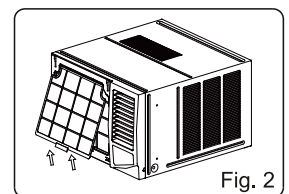

Fig. 2
3. Grip the tab on the end of the filter, lift it up, then pull it towards yourself, pull the filter out (see Fig. 2).
1. Insert the air filter into the frame's slot from upside to underside. (See Fig. 2)